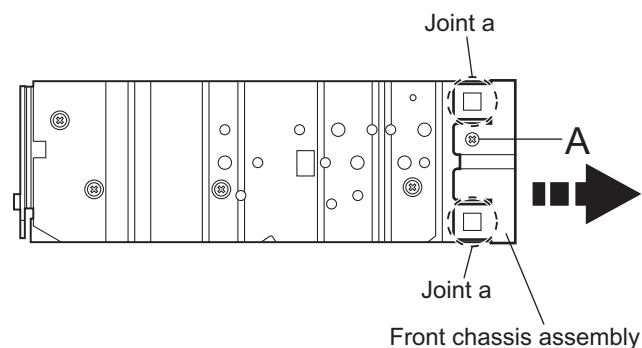

Fig.2
2.1.2 Removing the front chassis assembly (See Figs.2 and 3.)